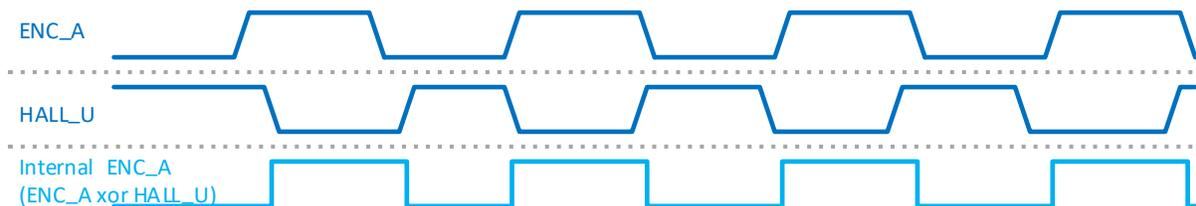

Figure 26. Digital differential ABN encoder input, example for ENC\_A vs. HALL\_U pins
- Digital differential ABN encoder input, represented in Figure 26.